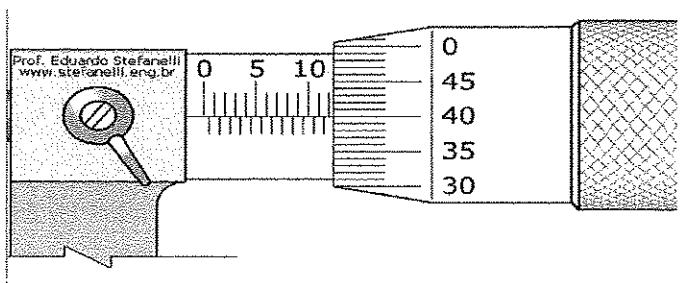

Figure 1(b)
- iii. Based on vernier caliper and micrometer in Figures 1(b), determine the correct reading